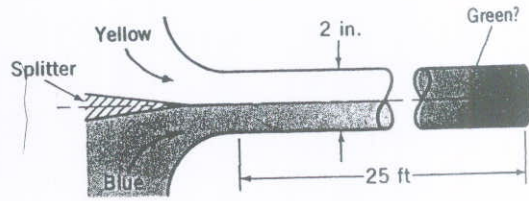

FIGURE P8.4
8.4 Blue and yellow streams of paint at 60 °F (each with a density of 1.6 slugs/ft3 and a viscosity 1000 times greater than water) enter a pipe with an average velocity of 4 ft/s as shown in Fig. P8.4. Would you expect the paint to exit the pipe as green paint or separate streams of blue and yellow paint? Explain. Repeat the problem if the paint were "thinned" so that it is only 10 times more viscous than water. Assume the density remains the same.